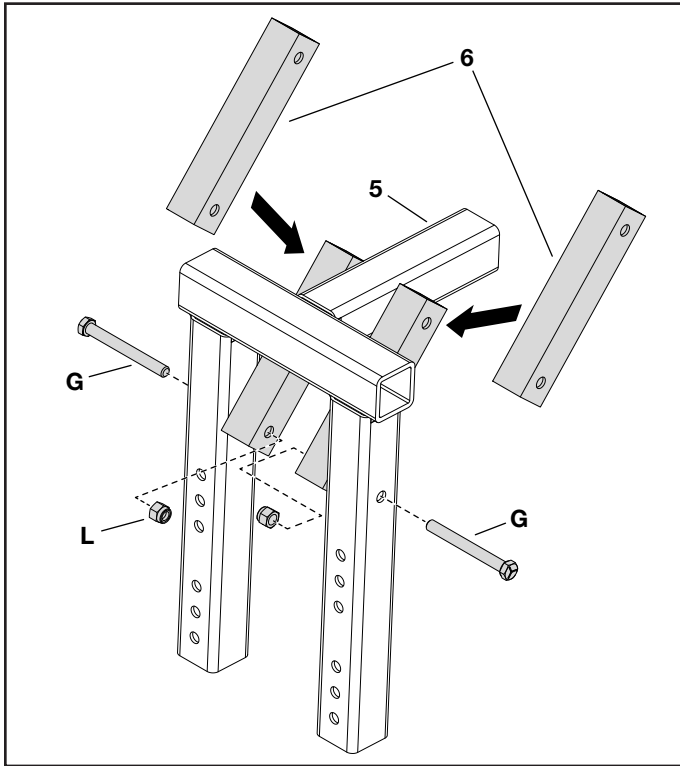

FIGURE 3
STEP 3: (SEE FIGURE 3)
- Attach the brace tubes (6) to both sides of the blade mount assembly (5) using two hex bolts (G) and two hex nuts (L). Tighten hardware.